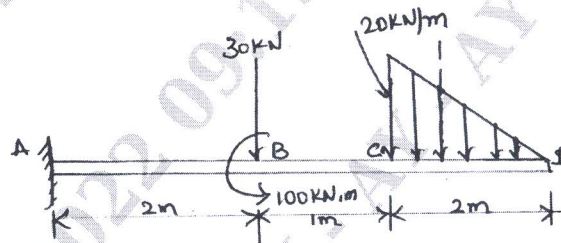

Fig.Q5(b)
- b. A Cantilever beam is loaded as shown in Fig.Q5(b). Draw shear force and bending moment diagram for the beams.